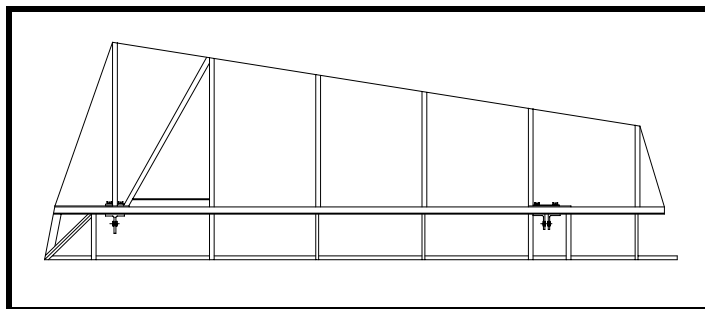

Figure 7
- ❑ Fit the Sta. 0 diagonal rib. This will require that you also cut the two spar doublers to an angle to match that of the diagonal rib. Note that this angle is also the same as is used in the following step. See Figure 7.